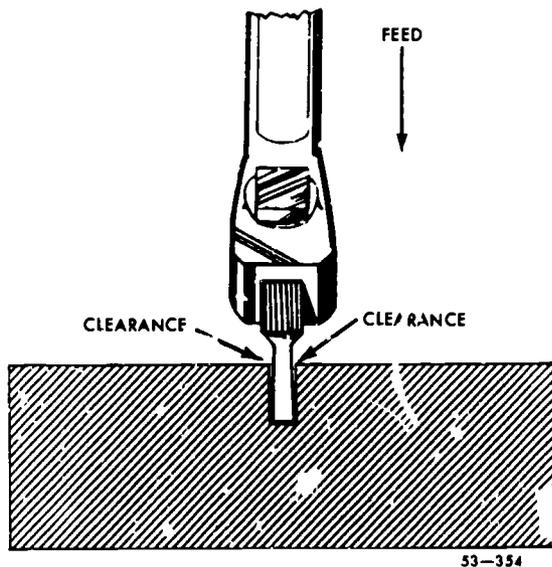
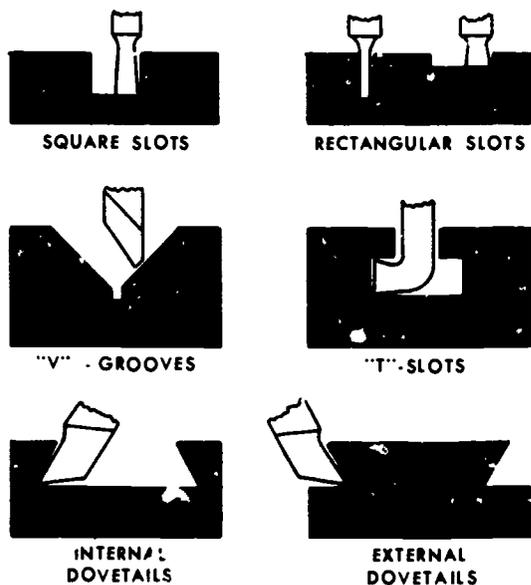
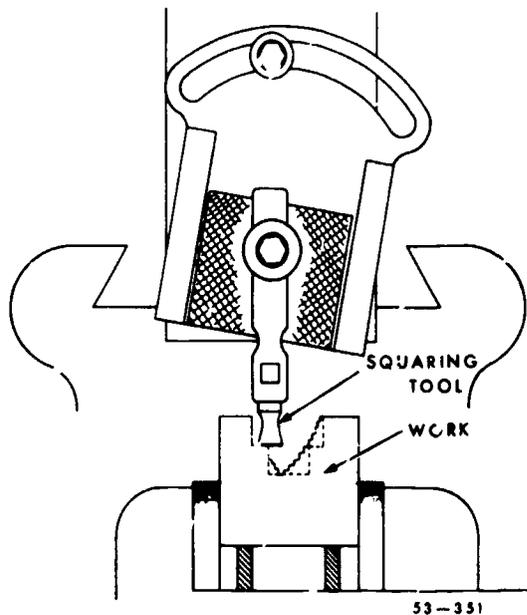

Figure 34. Cutting off tool.
Figure 56. Slots and grooves.
Figure 57. Machining a wide groove.
g. Parting. The *parting tool* is similar to the squaring tool, except that it is much narrower. You use it to part work, as shown in figure 34.
5-9. Slots and Grooves. You can machine small slots and grooves with form tools, as shown in figure 56. Or you can rough out large slots and grooves with a roundnose tool and finish machine them with squaring tools, as shown in figure 57. Use square-nose tools to finish square and rectangular slots. Use left- and right-hand side finishing tools to finish machine V-slots. You can cut off or part work with a shaper by simply machining a narrow slot deep enough to separate the work. Use a shaper parting tool, such as the one shown in figure 34, for parting. Grind shaper parting tools identical to the squaring tool shown in figure 31, except for the width of the cutting edge. The cutting edge on shaper parting tools should be from $\frac{1}{8}$ inch to $\frac{3}{16}$ inch wide. CAUTION: Do not attempt to part work or machine deep grooves parallel with vise jaws.